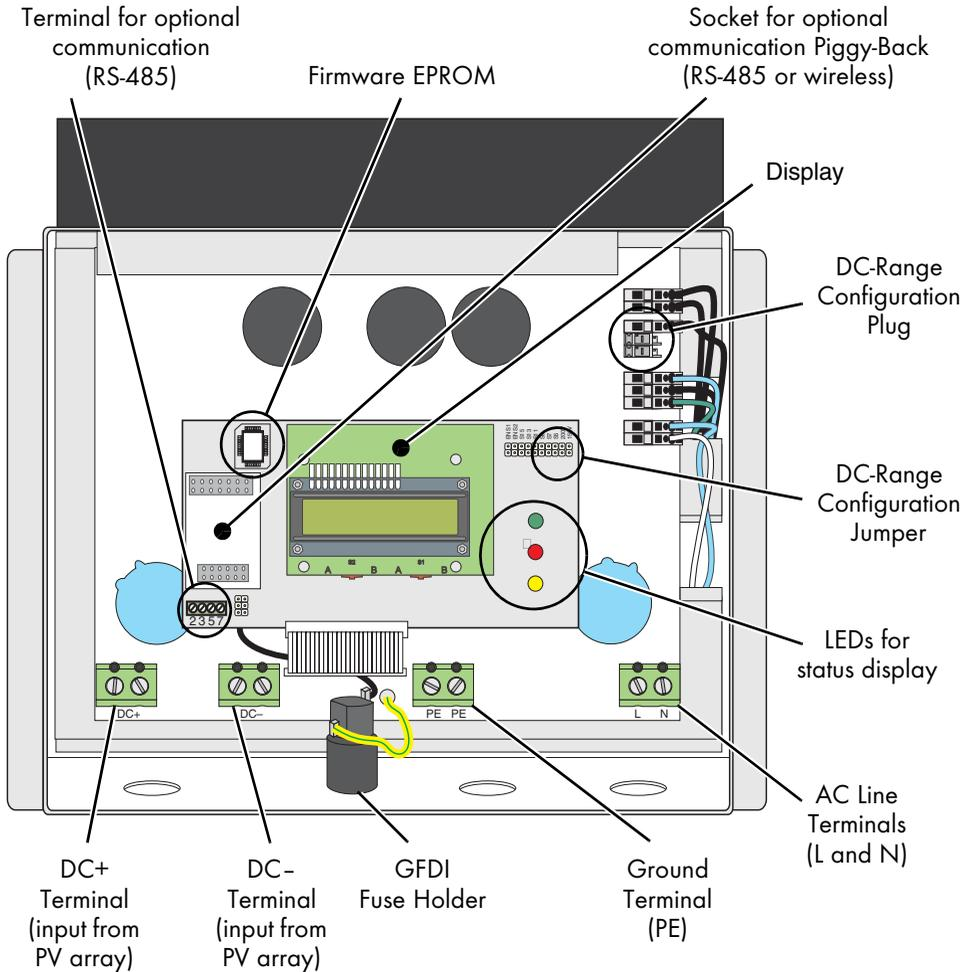
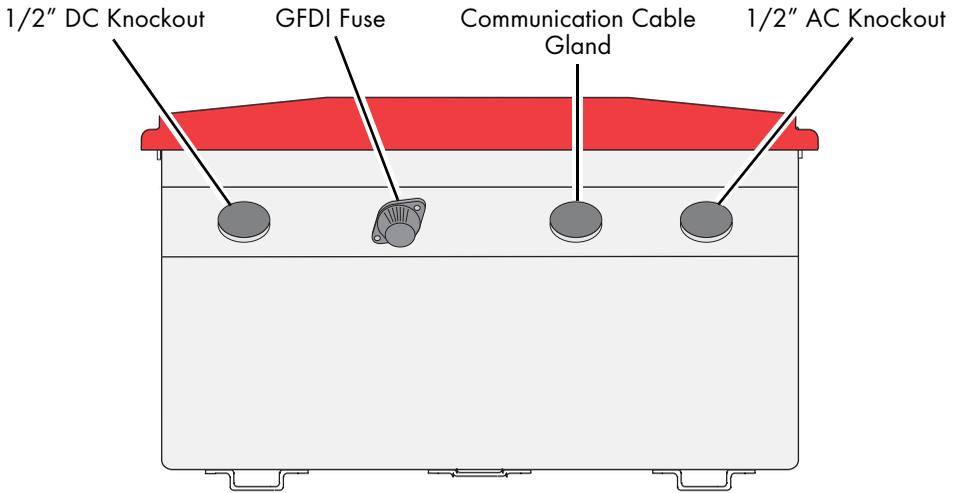

Figure 4-1 Sunny Boy 700U Internal Component Locator
Figure 4-2 Bottom View of the Sunny Boy 700U Showing 1/2" Wiring Knockouts
Figure 4-1 shows the internal components of the Sunny Boy 700U. Refer to this illustration whenever you need to locate a component to complete a step of the installation procedure.
The DC input from the PV array (via the DC disconnect enclosure) and the output to the AC utility grid connect to the inverter inside the Sunny Boy's case. These internal AC and DC wiring terminals (see Figure 4-1) accept a maximum wire size of #6 AWG. Knockouts are provided on the bottom of the Sunny Boy near each of the terminals for the wires to enter the case (Figure 4-2).
3. Install a ½-inch conduit fitting in the Sunny Boy's AC wiring knockout (the knockout farthest to the right on the bottom of the Sunny Boy, as shown in Figure 4-2 on page 4-5). Fasten the fitting on the inside of the Sunny Boy with the nut supplied with the fitting.